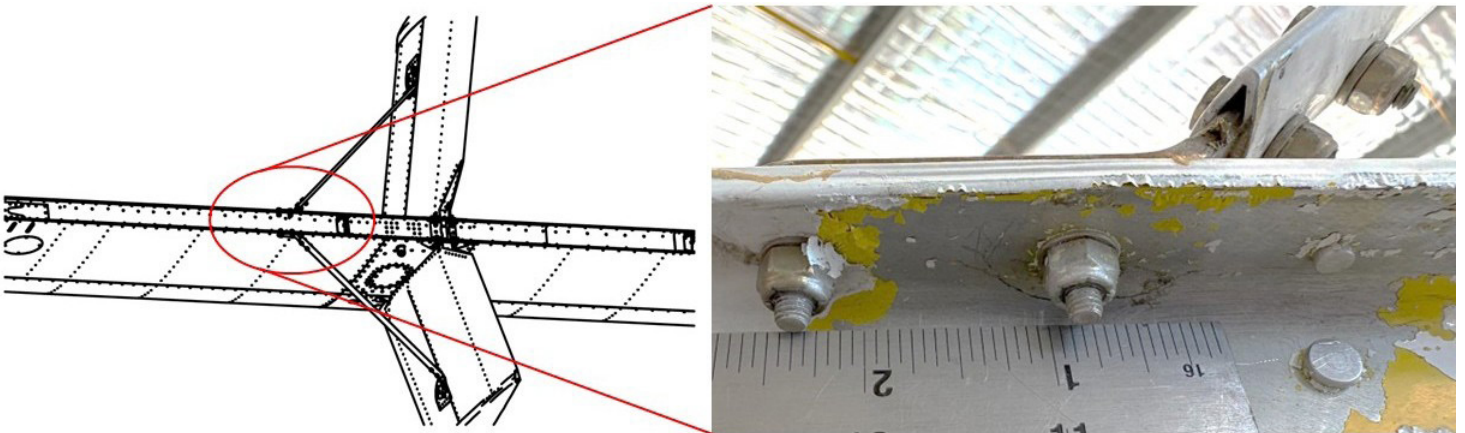

Figure 1 – Inspection Location (shown with struts installed)
6. Visually inspect for cracks on the rear horizontal stabilizer spar near the finlet strut attach point using a bright light source. Use of a 10x magnification tool is required. Cracking has been observed originating on the spar flange near the bend and propagating in an arc around the outboard bolt location. Refer to Figure 1.